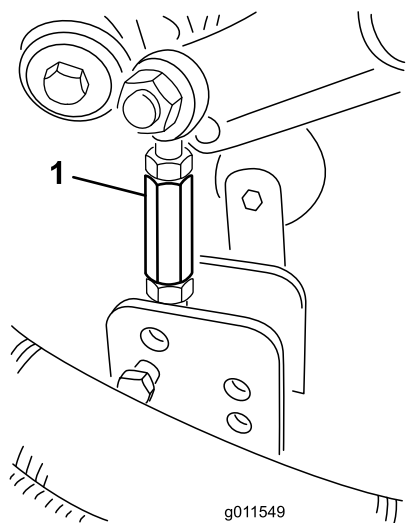
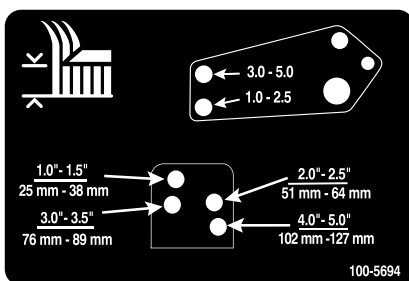

Figure 24
Figure 25
8. Remove the hairpin cotters and clevis pins securing the damper links to the cutting unit brackets (Figure 24). Align the damper link holes with the selected height-of-cut bracket holes in the cutting unit frame (Figure 25), insert the clevis pins, and install the hairpin cotters.